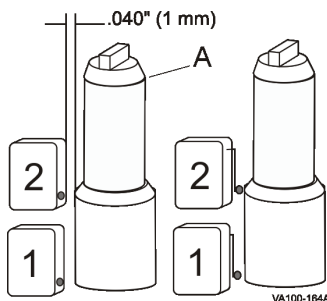

Figure 22 - Valve Open Adjustment
3. With the stem raised, adjust the vertical height of the upper switch target to slightly below the stem shoulder (Figure 22). Tighten the cap screws securely.